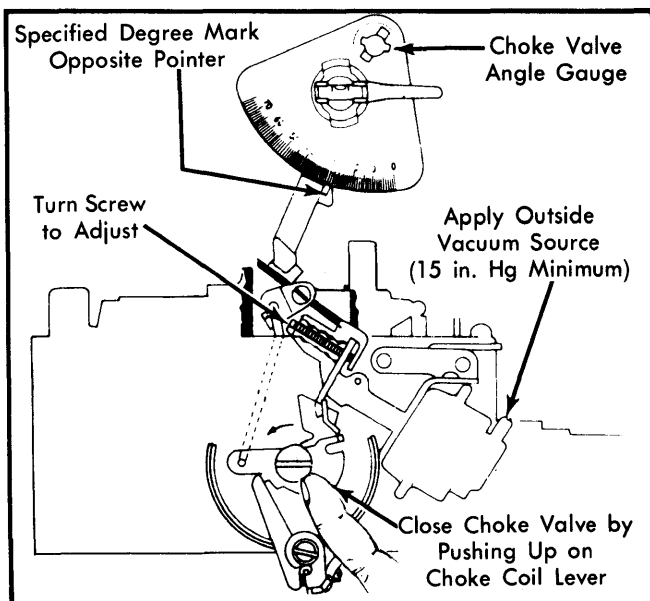

Fig. 6 Adjusting Primary Vacuum Break
1) Using an outside vacuum source of at least 15 in. Hg, seat primary vacuum break diaphragm. See Fig. 6.